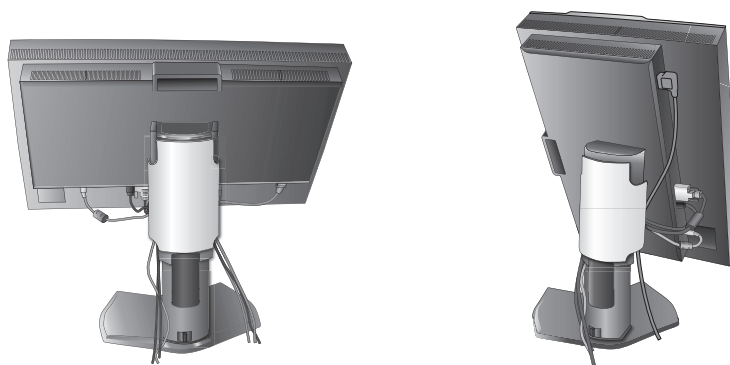

Figure D.1
7. Slide down the cable cover (**Figure D.1**).